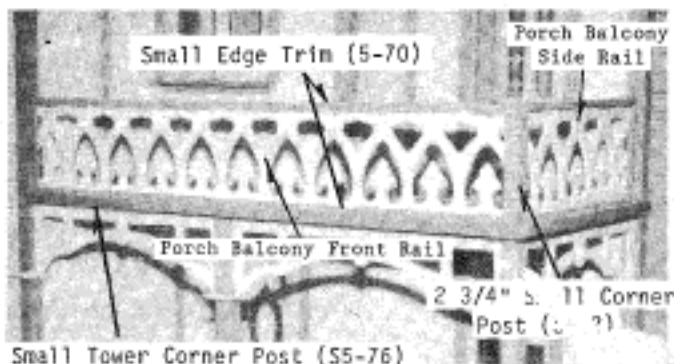

Figure 28
3. Using Small Edge Trim (Part No. 5-70), Cap the top, bottom, and ends of the front balcony rail assembly. Use the 2 3/4" Small Corner Post (S5-2) to connect the front rail to the side rail. Figure 28.